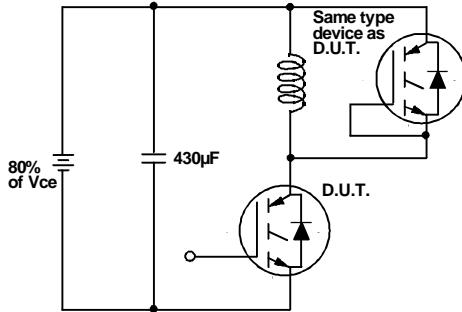

Fig. 18a - Test Circuit for Measurement of I_{LM} , E_{on} , $E_{off(diode)}$, t_{rr} , Q_{rr} , I_{rr} , $t_d(on)$, t_r , $t_d(off)$, t_f
- Fig. 18e - Macro Waveforms for Test Circuit Fig. 18a